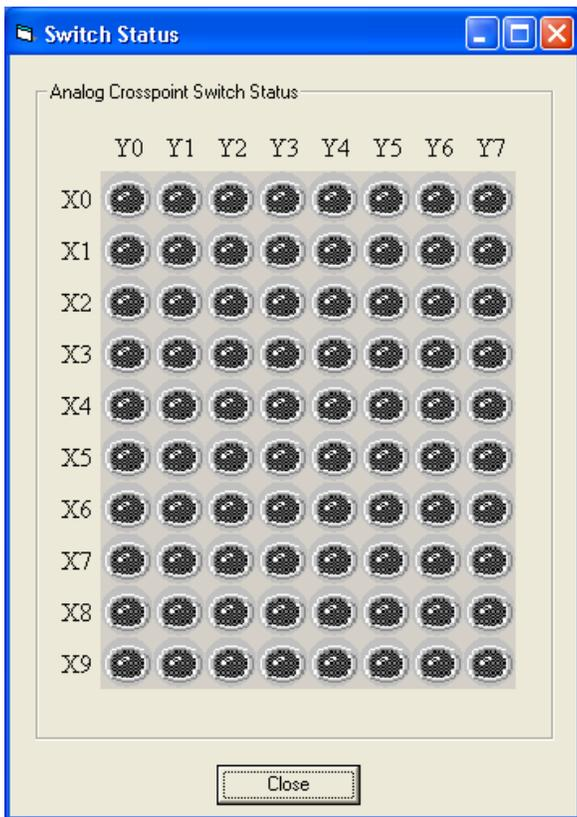

Figure 4. LED Display Showing Condition of All Switches
4. The **Switch Status** dialog box then appears (see Figure 4). This indicates if a switch is on (LED lit) or off (LED not lit).
3. Note that if the **Switch Status** dialog box (see Figure 4) is showing when the $\overline{\text{RESET}}$ button on the board is pushed, the **Close** button needs to be clicked. Then, click the **Switch Status** button to re-open the dialog box for the LED display to accurately reflect the switch states.